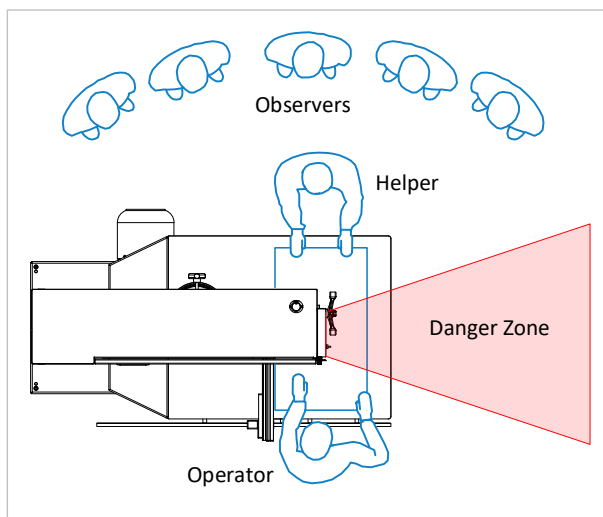

Figure 3: Danger zone around the machine
- ⚠ **Behaviour in the event of a saw blade breakage:** Press the emergency stop and wait until all band saw wheels have come to a complete standstill before taking any further action. Only the lower wheel is braked! In the danger zone next to the machine (⇒ Figure 3), there is a danger to life if the saw blade breaks!